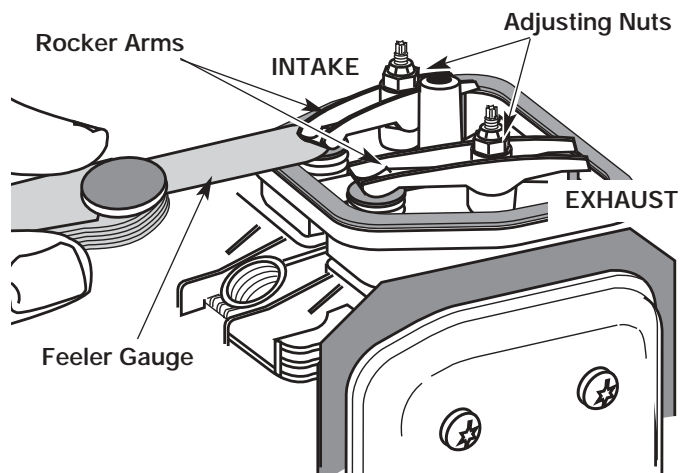

Fig. 66
9. Slide the feeler gauge between the rocker arm and the valve return spring. Measure the clearance between the valve stem and rocker arm (Fig. 66). Measure both the intake and exhaust valves.
The recommended clearance for both intake and exhaust is .003 – .006 in. (.076 – 0.152 mm). Use a standard automotive .005 in. (0.127 mm) feeler gauge. The feeler gauge should slide between the rocker arm and valve stem with a slight amount of resistance, without binding. Figure 66 and 67 show how to measure the clearance.